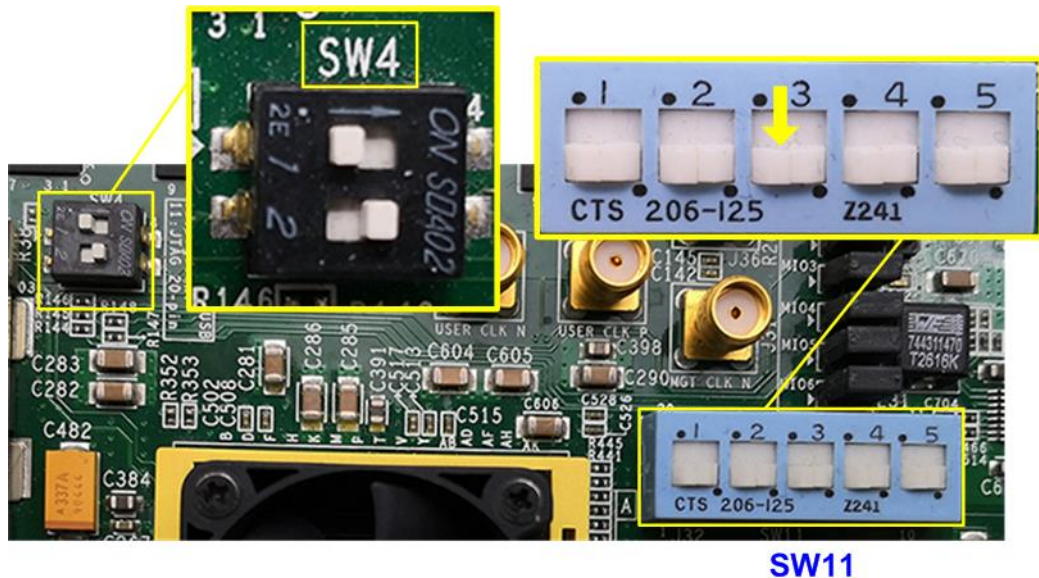

Figure 2-1 SW11 setting to configure PS from JTAG on ZC706
- a) For ZC706 board, set SW11="00000" to configure PS from JTAG and set SW4="01" to connect JTAG with USB-to-JTAG interface, as shown in Figure 2-1.